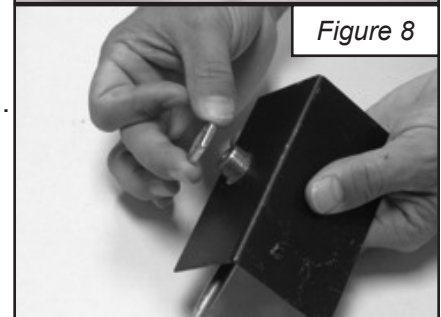

Figure 8
- H. Then secure the heat shield in place with the lock nut (Part # 16). (See Figure 8)